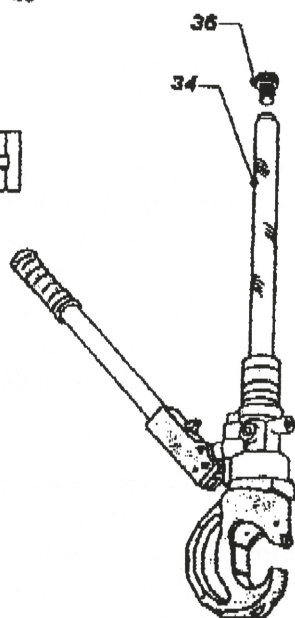

fig. 2
2. Turn and close the moving lever (58) and press the oil pressure relief piston (18) until the main piston (40) has been driven back.
3. Loosen the screw (74) with the corresponding hex wrench and remove the main handle (71).
4. Pull the plug (36) (see fig. 2) out of the plastic tank (34) and start filling the oil (we recommend the exclusive use of the Optimol Hydro 32, which is available in containers of 1 kg).
5. Close the oil tank again with the Plug and install the main handle (71) again.